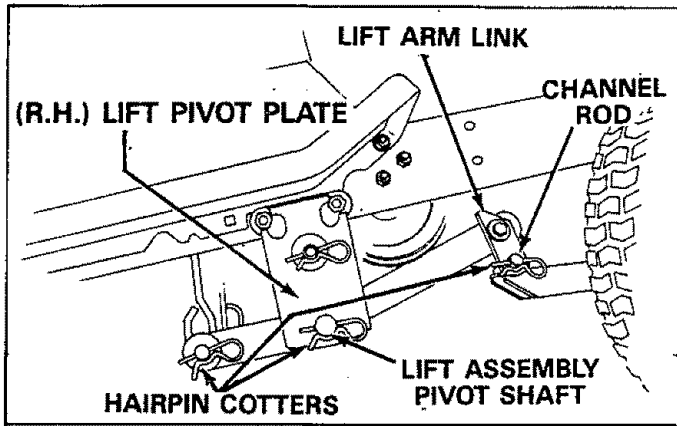

FIGURE 19
13. Secure lift arm link to channel rod with one hairpin cotter. See figure 19.